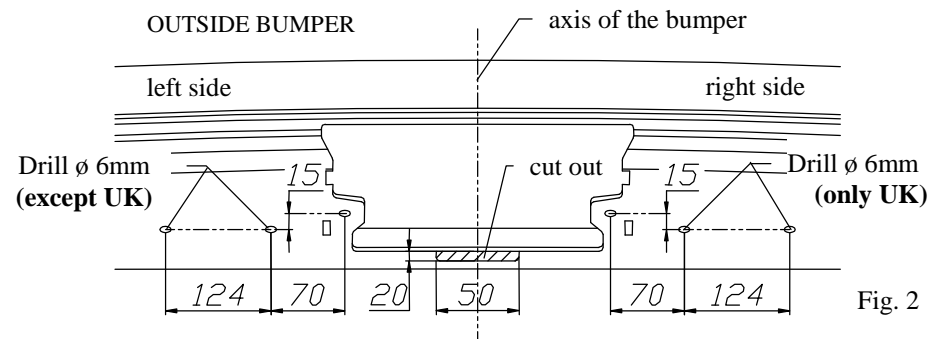

Fig. 2
3. In a bumper drill holes ϕ 6mm for fog light mounting and saw its fragments according to figure 2.